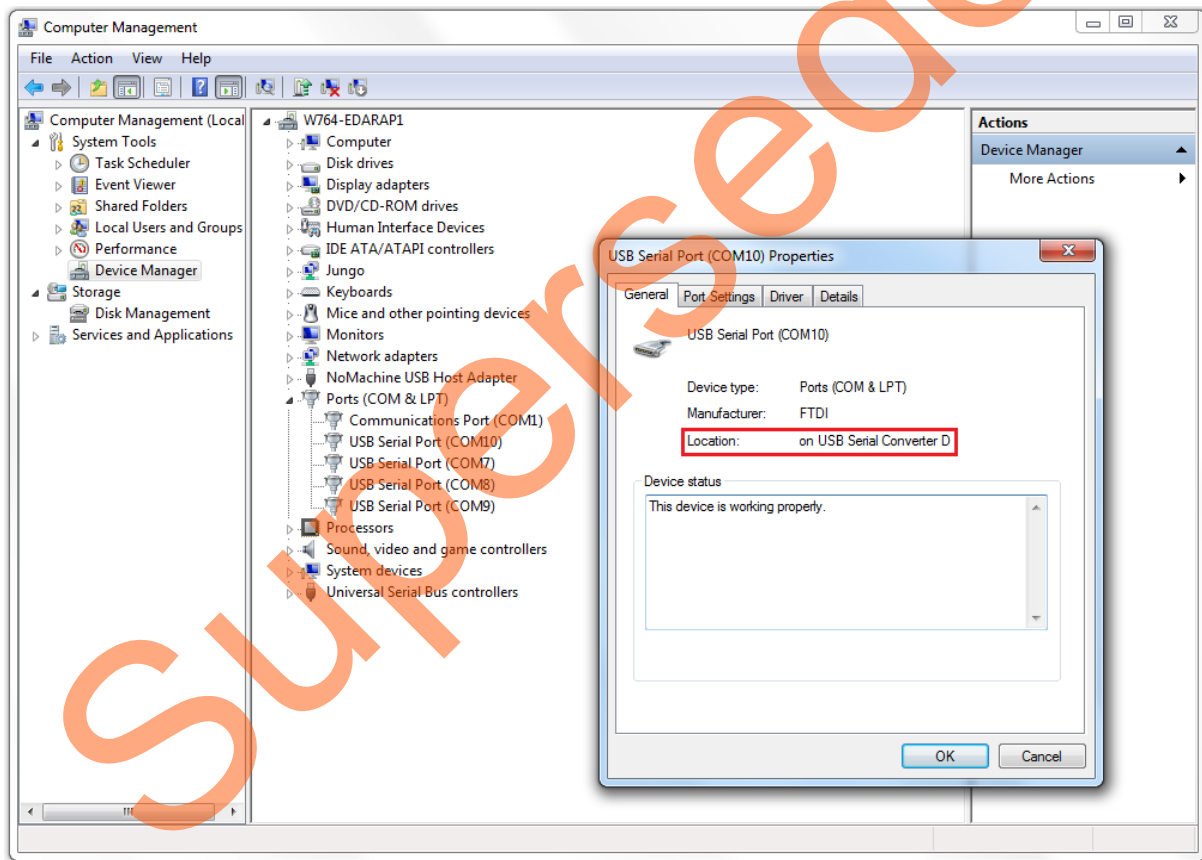

Figure 7 • Device Manager Window
2. From the detected four COM ports, right-click any one of the COM ports and select **Properties**. The selected COM port properties window is displayed, as shown in Figure 7.
3. Ensure to have the **Location** as **on USB Serial Converter D** in the **Properties** window as shown in Figure 7.